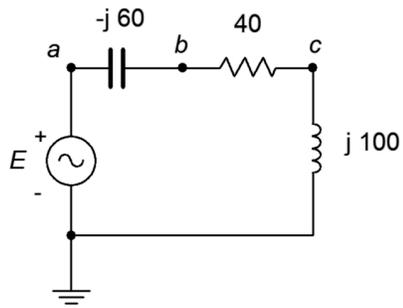

Figure 2.25
43. For the circuit of Figure 2.25, determine the circulating current and the voltages across each component.  $E$  is a 2 volt RMS 1 kHz sine. Also, draw a phasor diagram of the four component voltages.